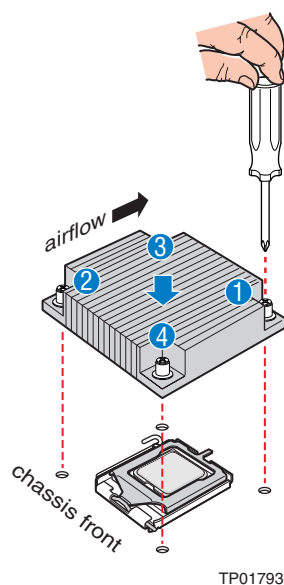

Figure 12. Installing the Passive Heat Sink
1. Set the heat sink over the processor, lining up the four captive screws with the four mounting holes surrounding the processor (see Figure 12).
2. Loosely screw in the captive screws on the heat sink corners in a diagonal manner. Do not fully tighten one screw before tightening another (see Figure 12 for reference).